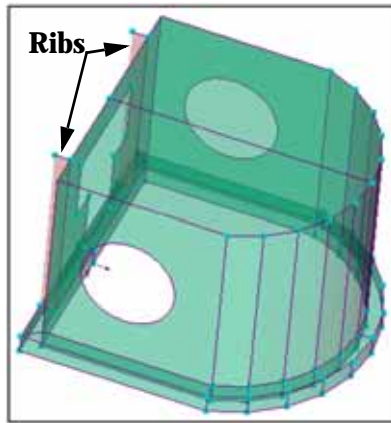

Figure 49: Ribs selected
1. Select the **regions** for the two ribs that extend from the part, as shown in Figure 49.